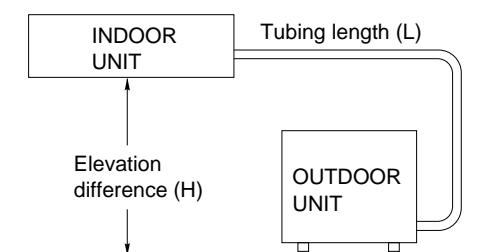

Fig. 2
- install the unit within the maximum elevation difference (H) above the outdoor unit and within a total tubing length (L) from the outdoor unit as detailed in Table 1 and Fig. 2.